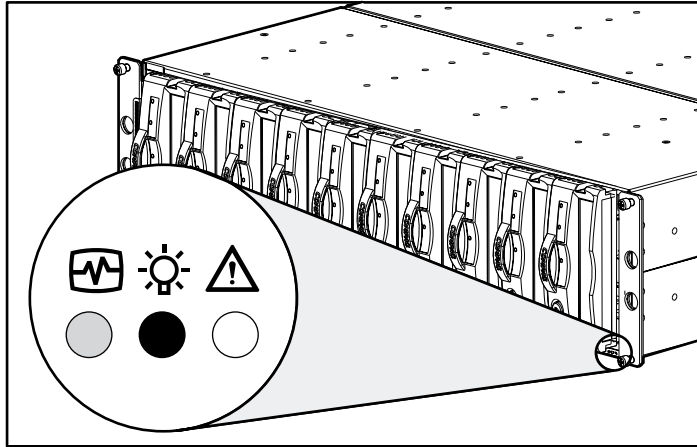

Figure 4-3. Front status LEDs
The EMU controls the three enclosure status LEDs (see Figure 4-3) that display the status of the EMU and the enclosure, the enclosure power, and an enclosure fault.
- During normal operation it flashes at a rate of approximately once per second. This is the “heartbeat.” The EMU and Enclosure LED on the front of the enclosure (see Figure 4-3) display is identical.